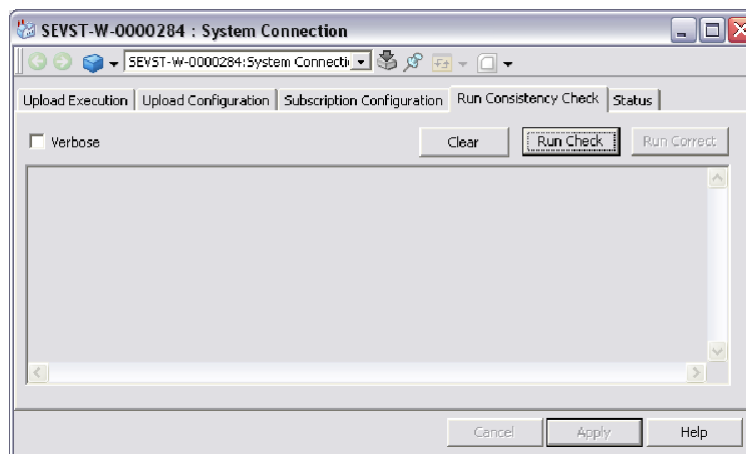

Figure 69. Run Consistency Check Tab
9. The System Connection aspect also has a **Run Consistency Check** tab (Figure 69). The consistency check can detect problems, like dangling references in object types, process displays and faceplates, etc.